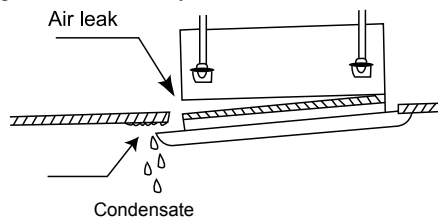

Fig.31
- (2). Improper screwing of the screws may cause the troubles shown in Fig.31.